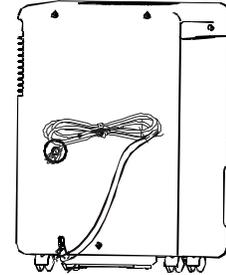

Fig. 12
- Wrap the cord and bundle it with the band (Fig.12).